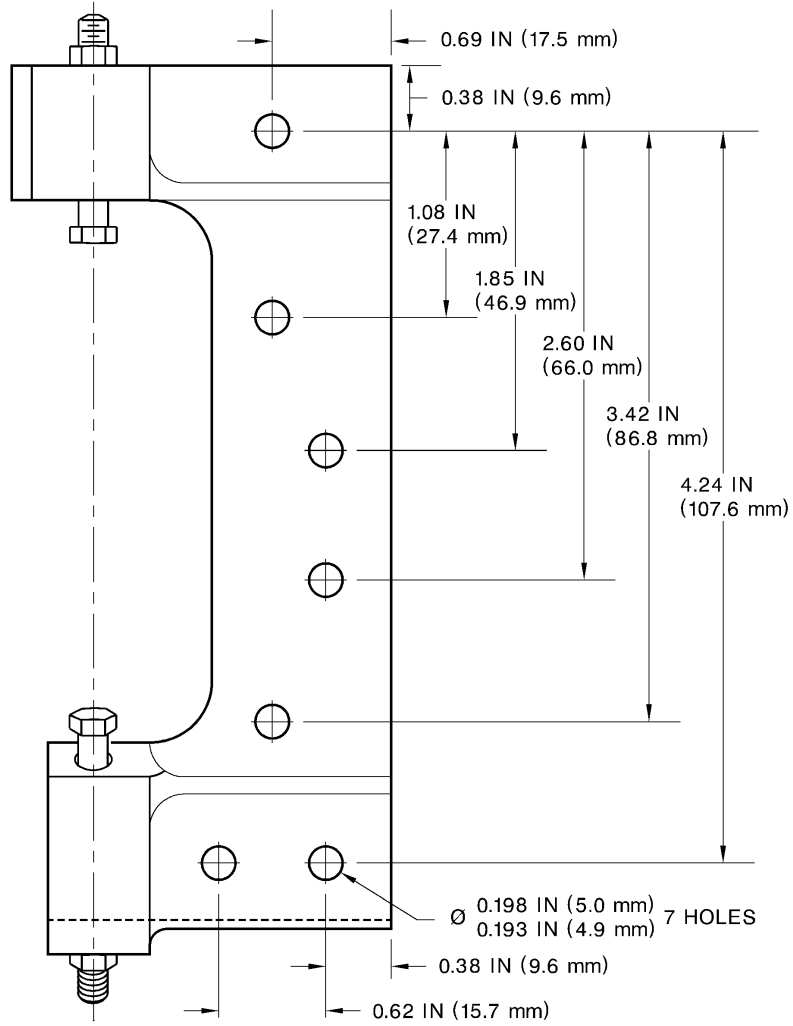

Figure 2
- d. Drill (Qty 7) holes in stop assy. (7) as per Figure 2.
- e. Locate stop assy. (7), transfer holes to stop (5), support (6) and support (4).